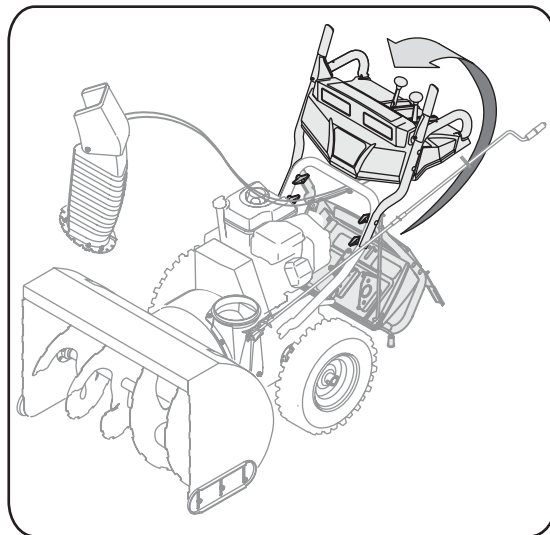

Figure 3-1
- Raise the upper handle assembly until it locks over the lower handle. See Figure 3-1.